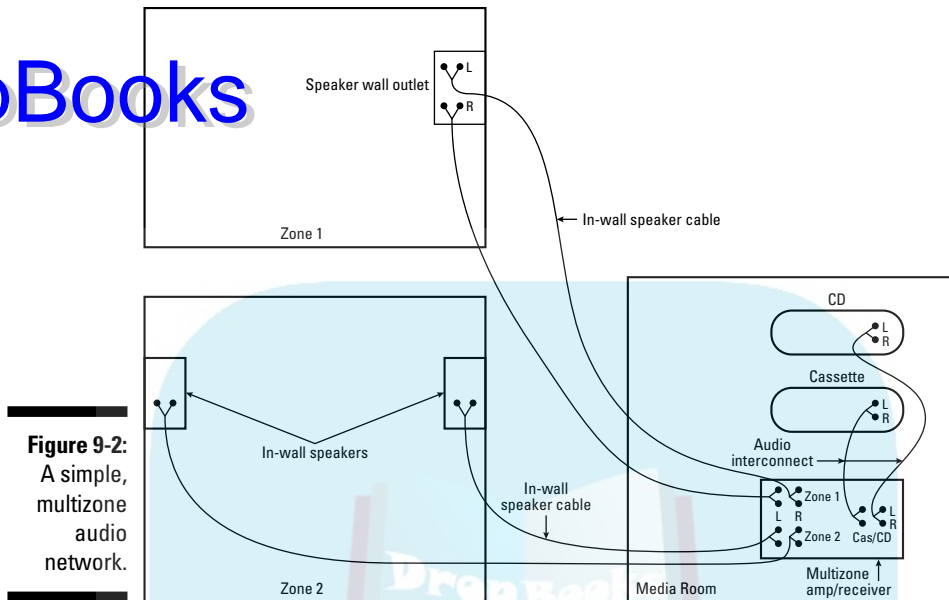

Figure 9-2:
4. Run the speaker wires through your walls to each speaker outlet or in-wall speaker location, as shown in Figure 9-2.